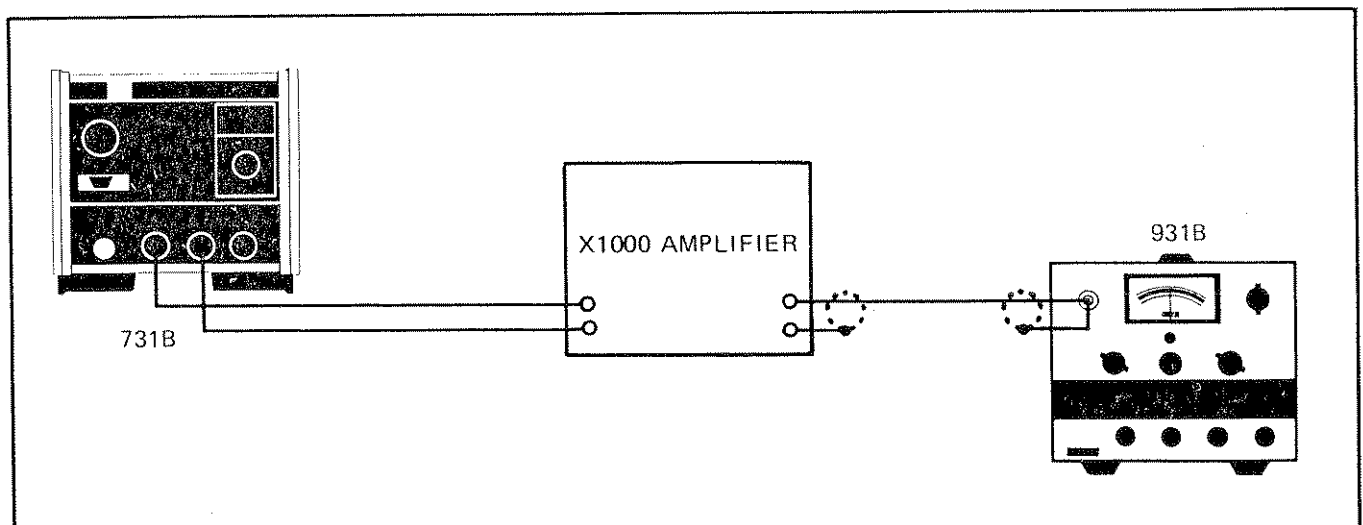

Figure 4-3. EQUIPMENT CONNECTIONS FOR 1 HZ TO 1 MHz OUTPUT NOISE TEST.
- a. Connect equipment as shown in Figure 4-3.